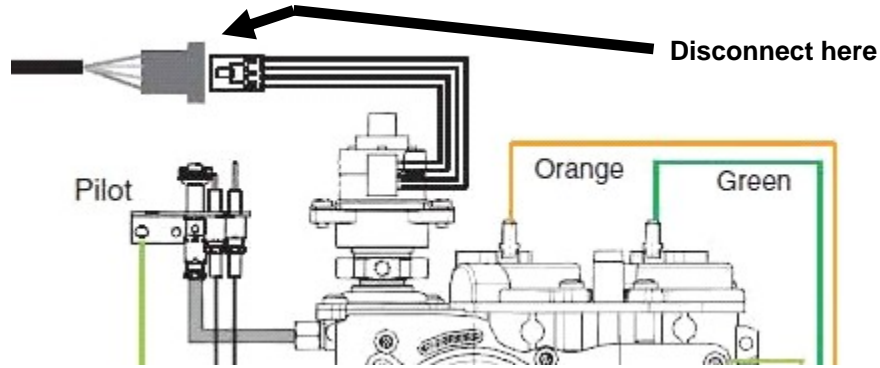

Figure 5
- You will need to disconnect the motor lead. Follow the wires from the stepper motor back until the first connection. Disconnect the wires at this junction. See Figure 5.